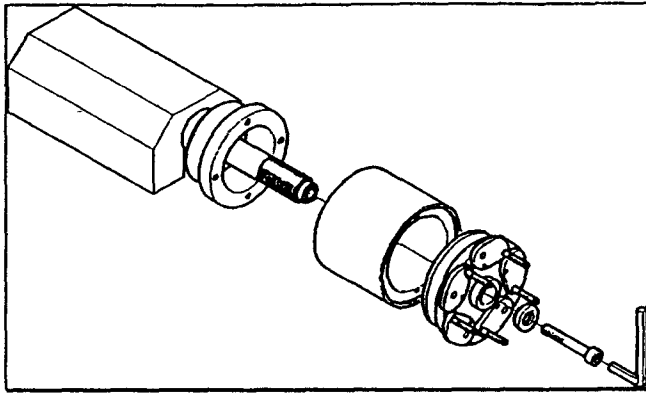

Fig.24
A. Mount the spacer and the UF345 adapter onto the arbor (Fig.24). Tighten the screw firmly.